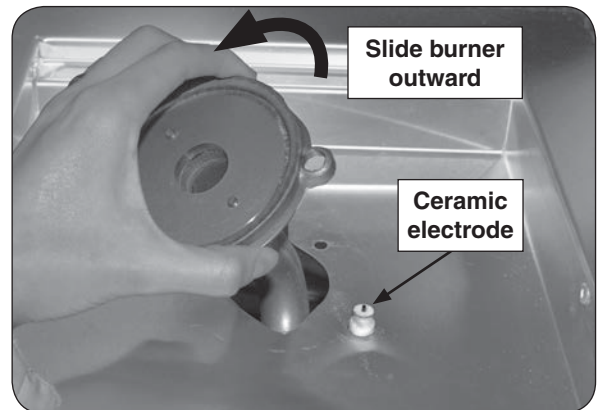

Fig. 30-2 Remove burner
5. Carefully lift the burner up and out, clearing the ceramic electrode (see Fig. 30-2), and pulling the burner tube away from the orifice located on the left side of the unit.